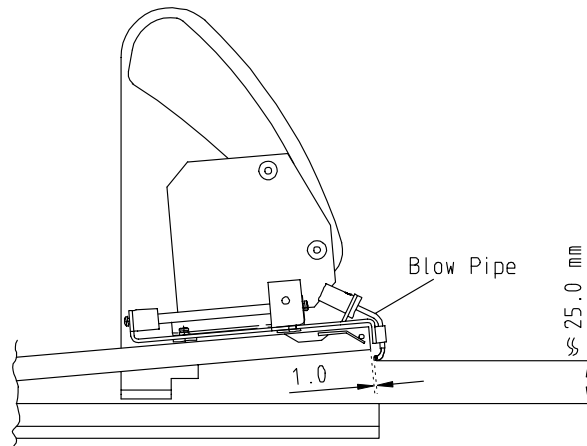

figure 6
Check the distance between the tip of BLOWPIPE and the edge of the CASSETTE (figure 6). Use X-OMATIC CASSETTE 18 x 24 or MIN R2 CASSETTE 18 x 24 if X-OMATIC CASSETTE is not available.
4. Lift the CASSETTE LID by hand and check for distance as shown in figure 6.